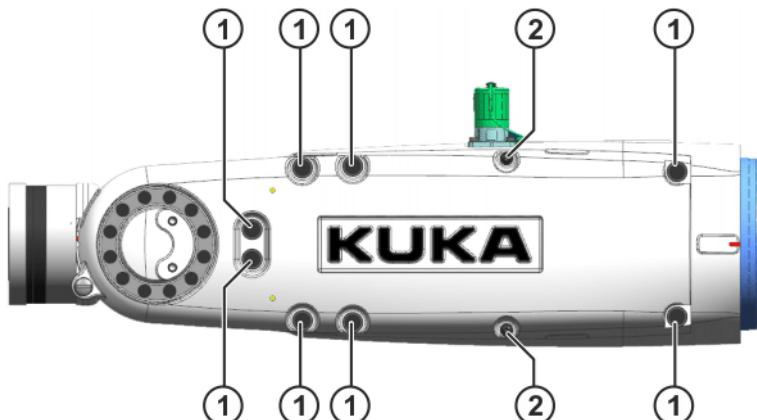

Fig. 9-3: Checking the screws, in-line wrist torque bridge
1. Check the following 10 fastening screws with the torque wrench and retighten with the tightening torques indicated if necessary (>>> Fig. 9-3). Exchange damaged screws and washers.